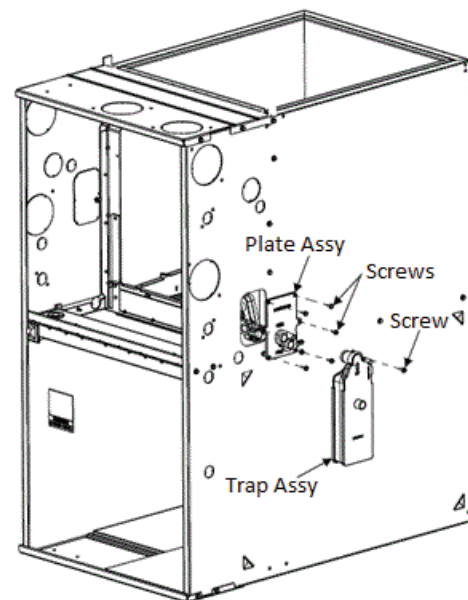

Fig. 15 – Upflow Condensate Drain
2. Screw the adapter plate to the trap adapter using provided machine screw, see Fig. 15.
3. Screw the adapter plate to the side of casing using six (6) of the provided sheet metal screws, see Fig. 15. Drilling pilot holes is recommended to better align the plate with the knockout opening.
4. Screw the trap to the adapter plate using provided machine screw, see Fig. 15.
2. Screw the adapter plate to the side of casing using six (6) of the provided sheet metal screws, see Fig. 15.